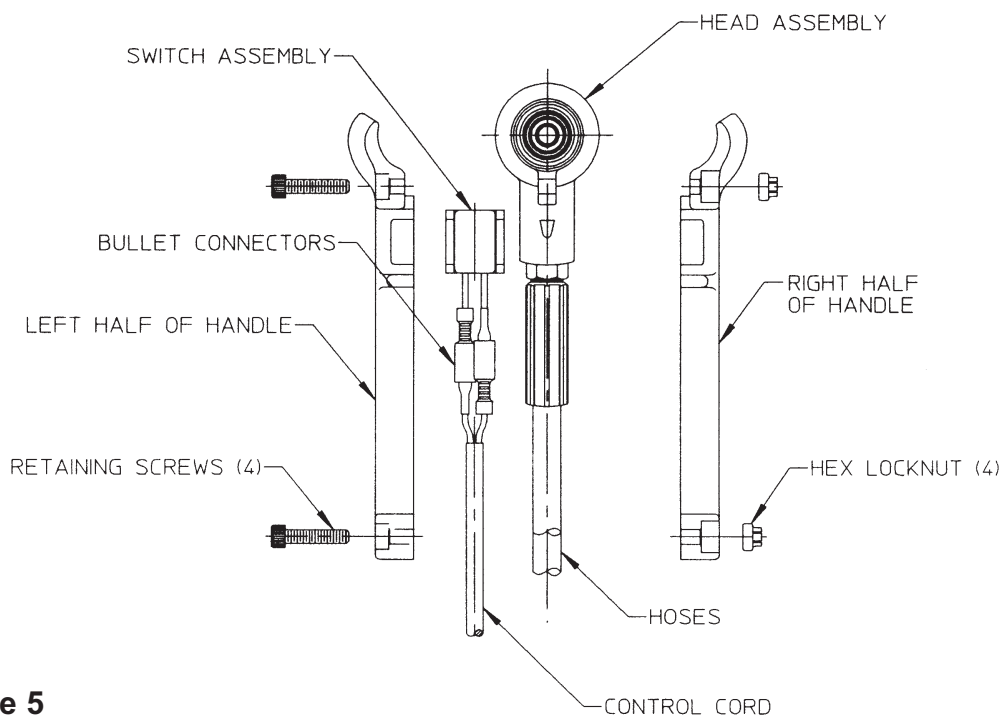

Figure 5
(REFER TO FIGURES 5, 6, 6A, 6B, 6C, 7 AND 7A)
3. Unscrew four socket screws from handle assembly. Remove screws and nuts. Separate handle halves - see **FIGURE 5**.
4. **2480:** Lift switch assembly from handle half. Pull control cord out of handle's built-in strain relief. Pull both bullet connectors apart - see **FIGURE 5**.